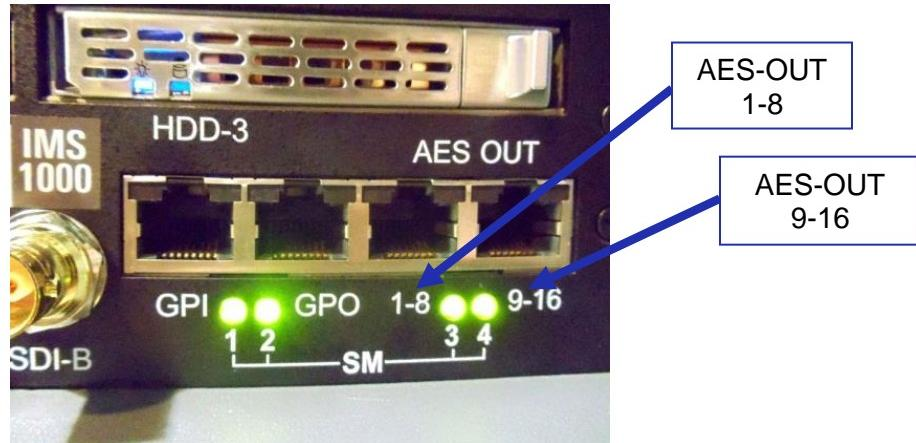

Figure 21: Audio Connectors
- Plug one shielded CAT5 or CAT6 cable end into the connector labeled AES-OUT 1-8 on the IMS1000 board (Figure 21).
- Take another shielded CAT5 or CAT6 cable and plug the end into the connector labeled AES-OUT 9-16 (Figure 21).